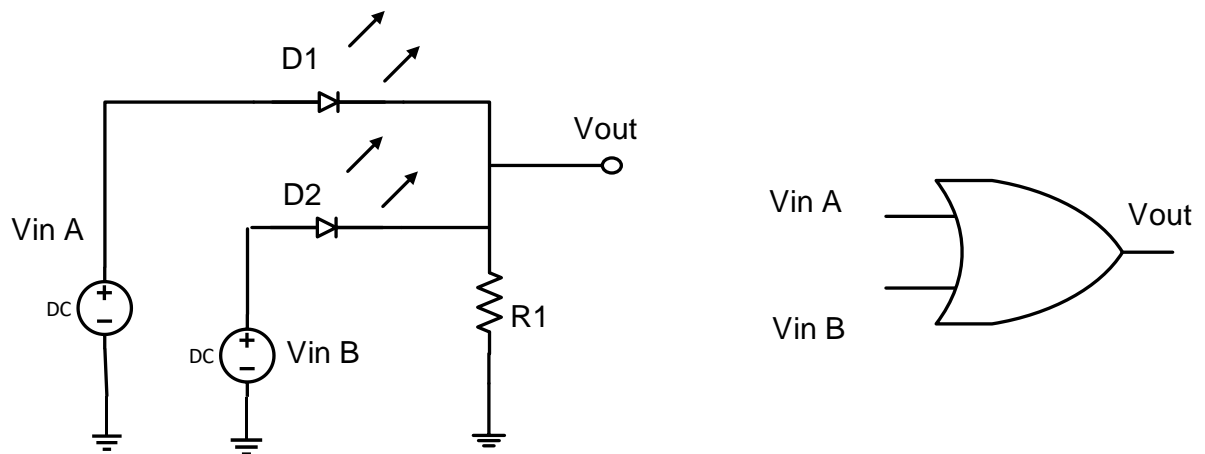

FIGURE 1
1. Design a diode OR gate, Figure 1 in which the maximum current thru R1 $I_{R1} = 9\text{mA}$ assume $V_{in} = 5\text{Vdc}$. Design the R1 resistor with a single diode on such that the current thru the diode is 9ma assume the forward diode voltage drop $V_D = 0.6\text{Vdc}$. Show all work including the **LTspice schematic and plots**.
- 1a. Build an OR gate (Figure 1) using 1N4001 diodes on LTspice. Fill in the function table in the lab datasheet.
Diode Gate figure 1